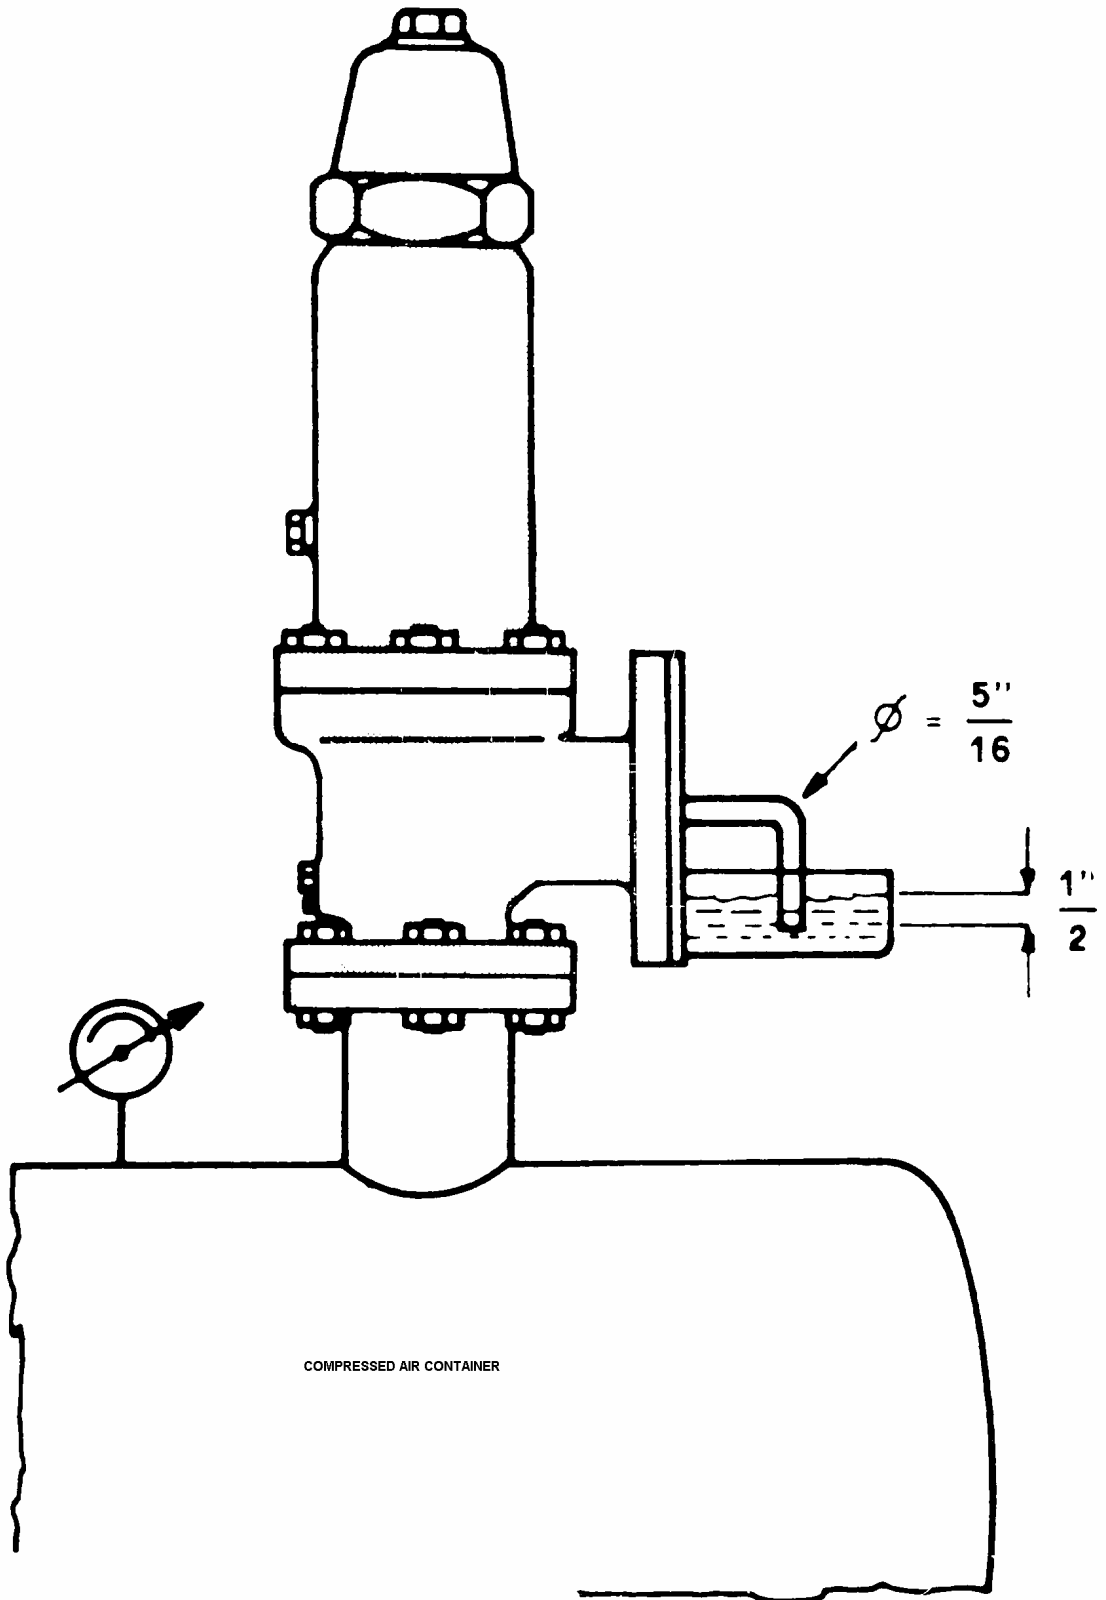

Fig. 1
- Connect the valve inlet to a container (fig 1) in which the pressure may be raised gradually and measured by the means of a pressure gauge.
To regulate the set pressure (see fig 1).
- (1) Place the valve on the tests stand (fig 1) with no pressure on the valve inlet.
- (2) Remove the cap (3)
- (3) Prevent the disc-holder rotating by means of holding the spindle (5) with a screwdriver inserted into the slot at the end.
- (4) Loosen lock nut (14) of the adjusting screw (13)
- (5) Regulate the spring adjusting screw until the desired set pressure is reached.